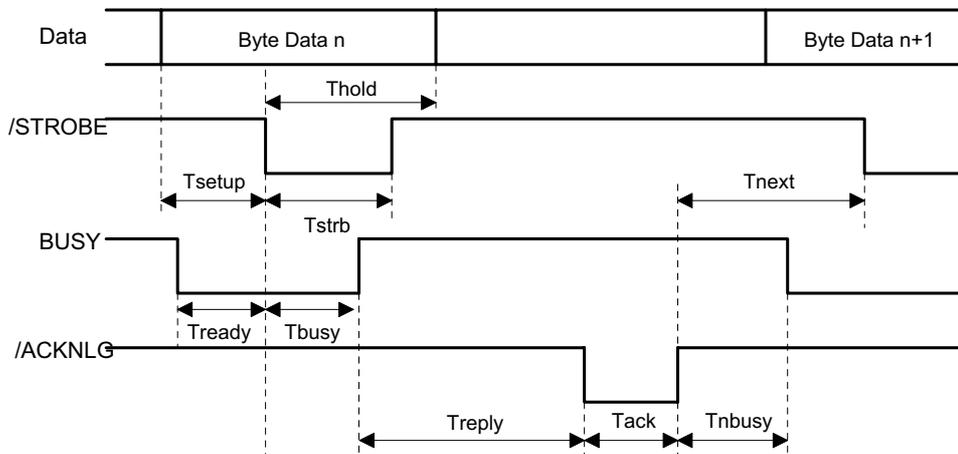

Figure 1-9. Parallel Interface Timing Chart(Forward Channel)
- ❑ Refer to the figure 1-9 for transmission timing of each signals.